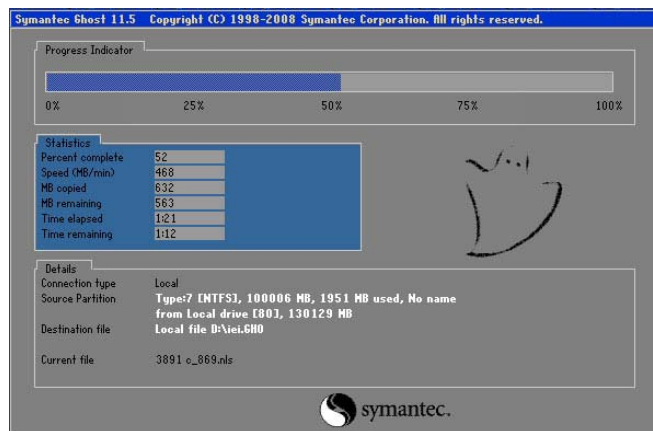

Figure C-19: Image Creation Complete
Step 10: The Symantec Ghost starts to create the factory default image (**Figure C-19**).